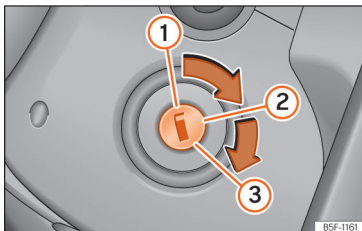

Fig. 132 Ignition key positions.
Key positions »» Fig. 132
- Turn the key to position »» Fig. 132 ②. Preheating occurs in diesel vehicles .
- Keep turning the key to position »» Fig. 132 ③ without stepping on the accelerator.
- Once the engine starts, release the key. When it is released, the key returns to position ②.